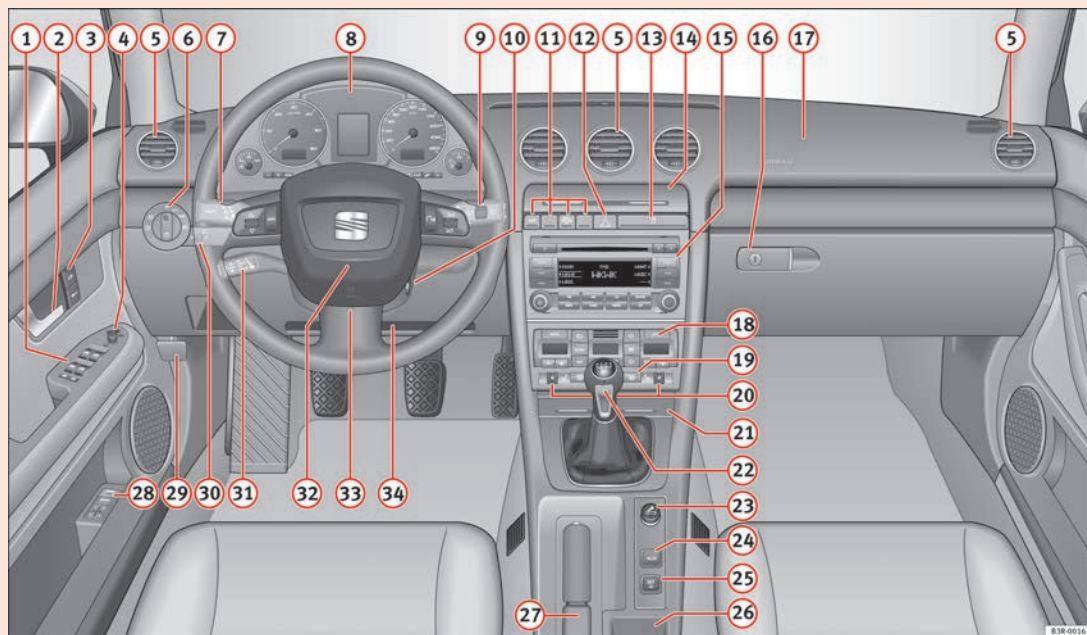

Fig. 36 Some of the equipment listed in this section is only fitted on certain models or are optional extras.
- The arrangement of switches and controls on right-hand drive models* may be slightly different from the layout shown in ⇒ fig. 36. However, the symbols used to identify the controls are the same.